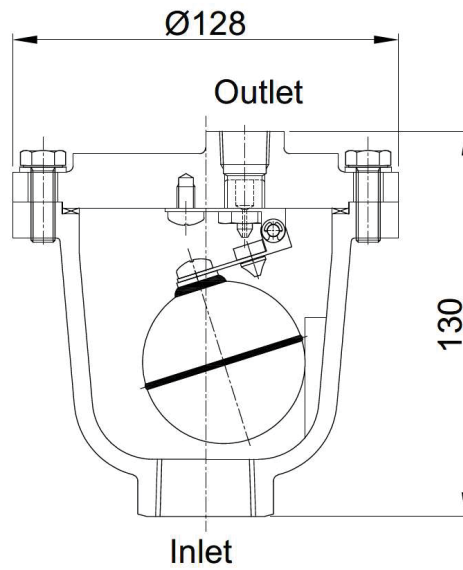

Figure 3
- Structure (As per Figure 3, Table 2)